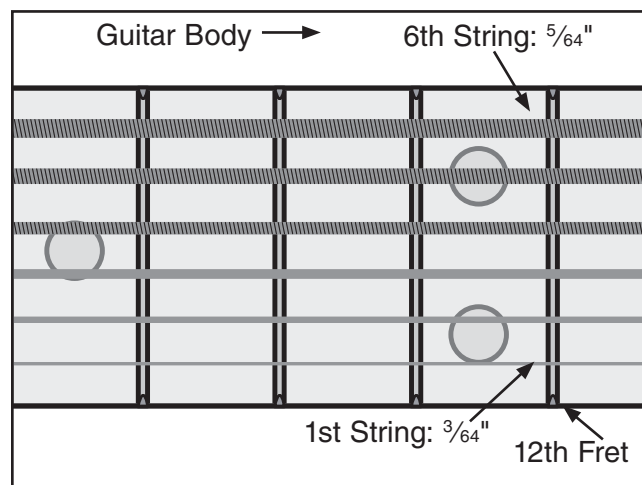

Figure 35. Correct 12th fret string heights.
1. Measure the string heights at the 12th fret (see **Figure 35**).
2. With a Phillips head screwdriver, adjust the screws on each side of the pick up (see **Figure 35**) until the string heights are correct.